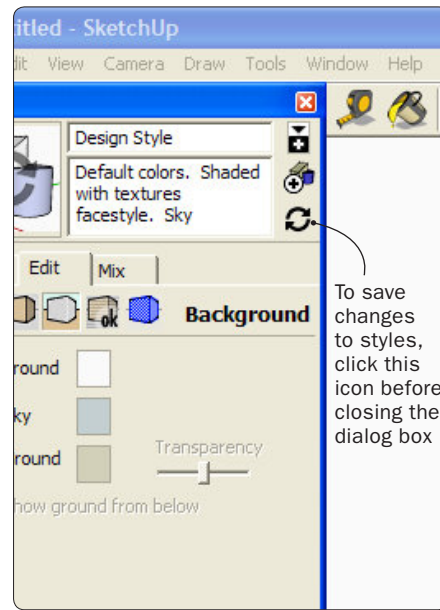

Figure 9. The Background Styles dialog box.
5. Click on the Background icon, which is the one in the center, to bring up choices for the background, as shown in Figure 9. Leave the boxes for Sky and Ground unchecked. Click on the